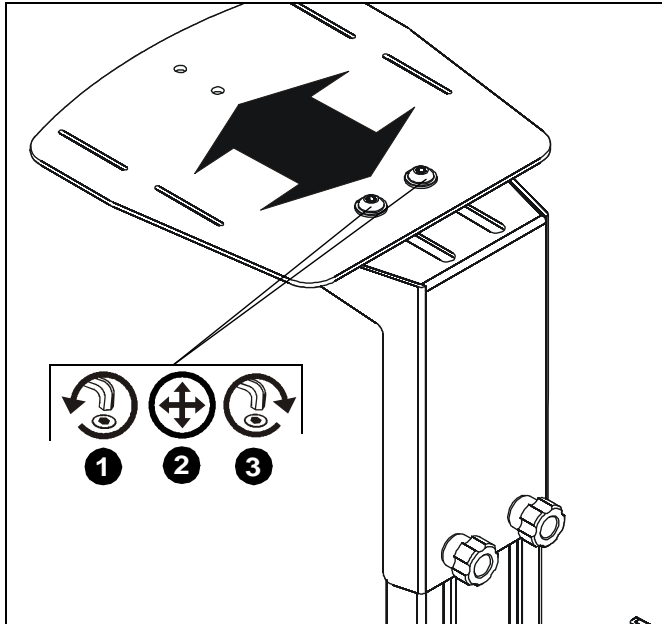

Figure 7
1. Loosen two button head cap screws on video conferencing shelf (A). (See Figure 7)
2. Adjust shelf to desired mounting position. (See Figure 7)
3. Tighten two button head cap screws on shelf until mount is secure. (See Figure 7)